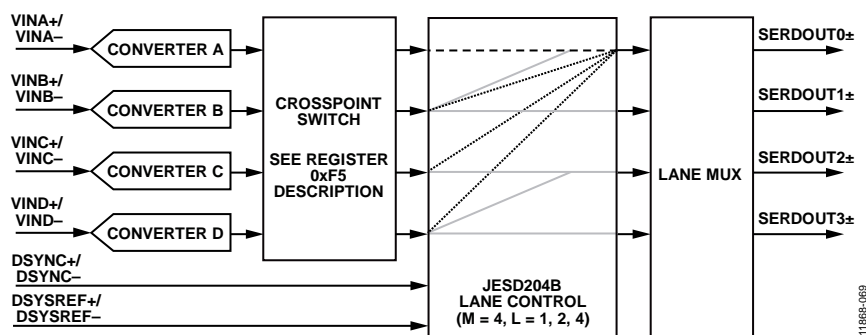

Figure 64. AD9656 Transmit Link Simplified Block Diagram
- Option to remap converter (logical lane) and SERDOUTx± (physical lane) assignments: Register 0x82 and Register 0x83. See Figure 64 for a simplified block diagram.